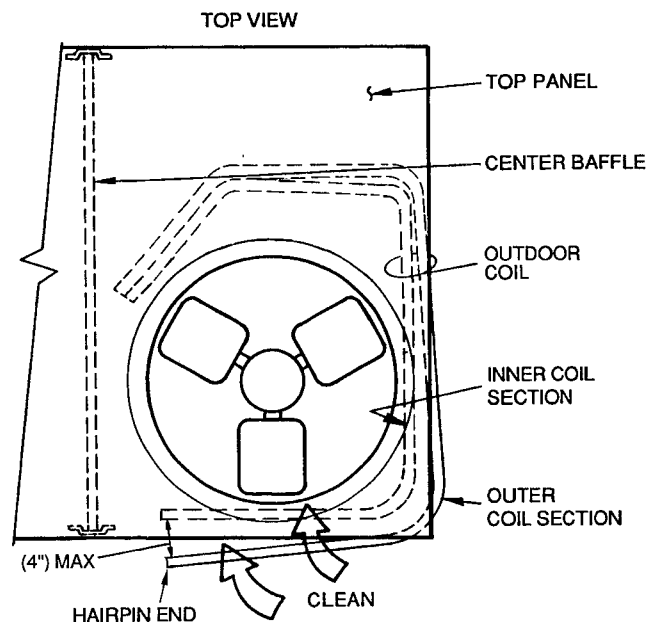

Fig. 29 — Separating Coil Sections
4. Remove device holding coil sections together at return end of outdoor coil. Carefully separate the outer coil section 3 to 4 in. from the inner coil section. See Fig. 29.